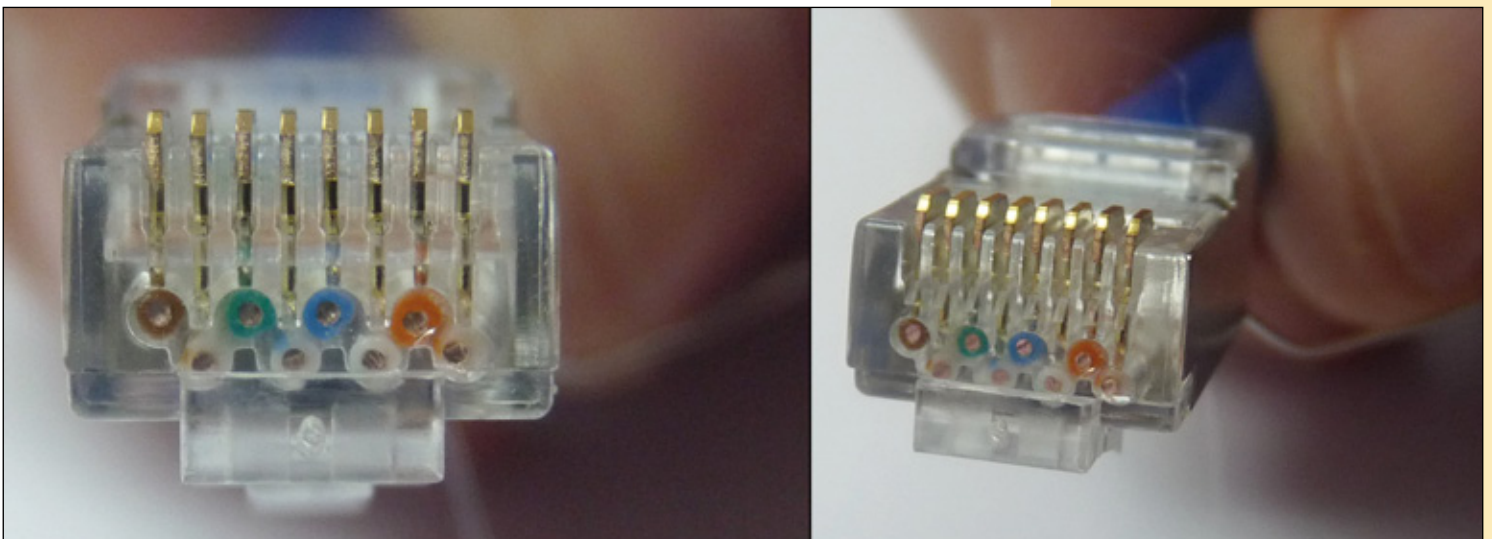

Figure 20
- 15 Check that all the individual conductor tips reach the extreme of the Main Body as shown in the Figure 20.